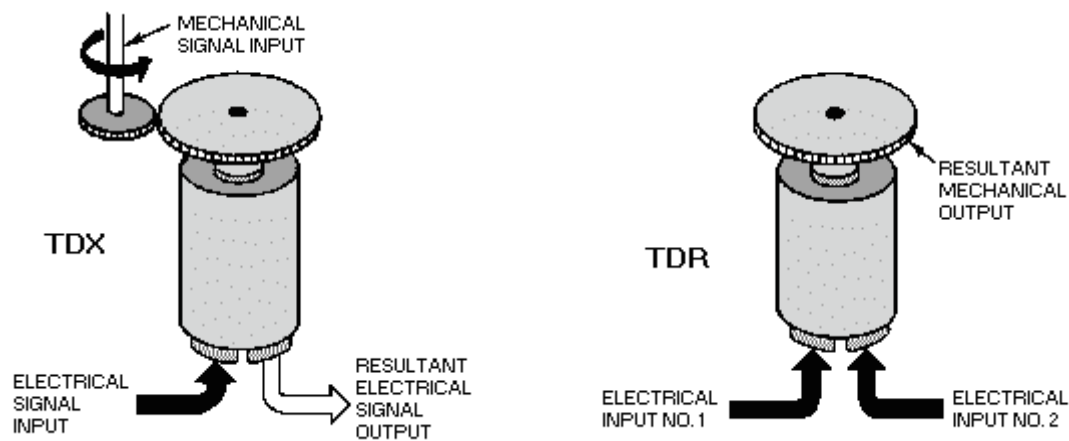

Figure 1-18.—Torque differentials.
There are two types of differential units - differential transmitters and differential receivers. The differential transmitter (TDX) accepts one electrical input and one mechanical input and produces one electrical output. The differential receiver (TDR) accepts two electrical inputs and produces one mechanical output. A comparison of the TDX and TDR is shown in figure 1-18. The torque differential transmitter and the torque differential receiver can be used to form a **DIFFERENTIAL SYNCHRO SYSTEM**. The system can consist either of a torque transmitter (TX), a torque differential transmitter (TDX), and a torque receiver (TR), (TX-TDX-TR); or two torque transmitters (TXs) and one torque differential receiver (TDR), (TX-TDR-TX). Before beginning a discussion of the systems using differentials, we need to provide a brief explanation on the newly introduced synchros, the TDX and the TDR.